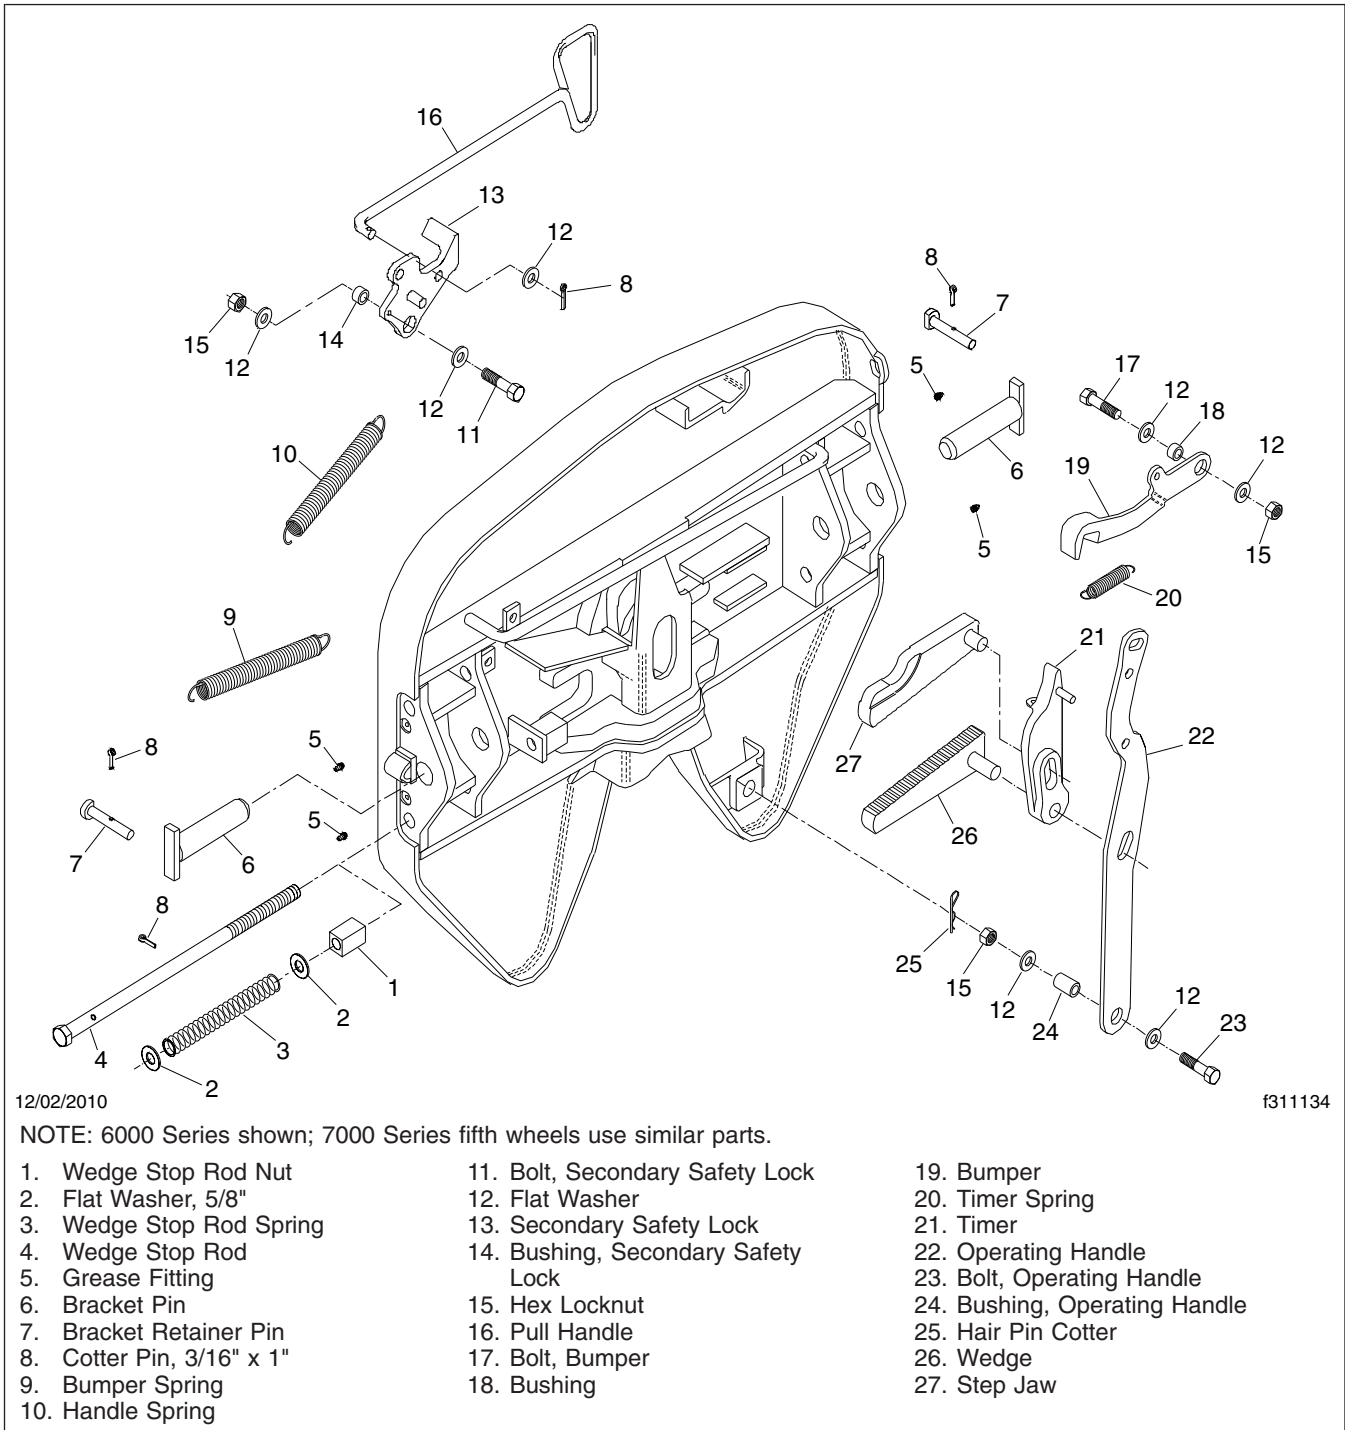

Fig. 1, Fontaine Fifth Wheel
4. Ensure that both bracket pins are in place and secured by retainer pins and cotter pins. See **Fig. 1**.